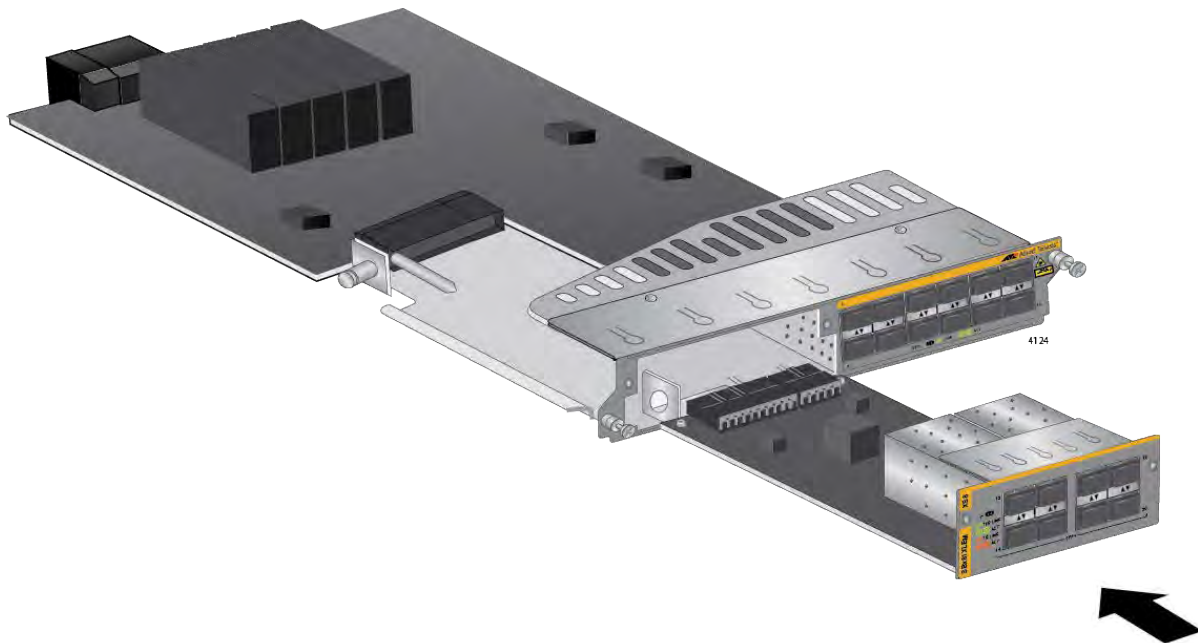

Figure 84. Sliding the Expansion Module into the AT-SBx81XLEM Line Card
8. Carefully align the expansion module in the slot, as shown in Figure 84, and slide it into the line card.